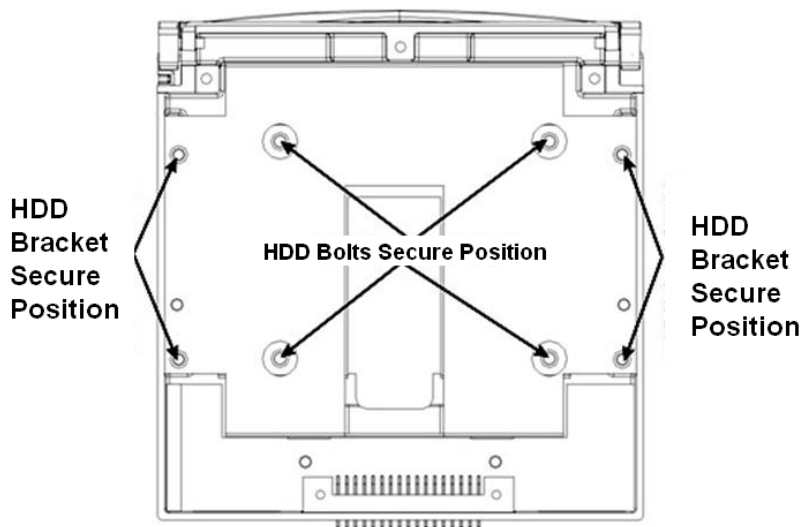

Figure 2-16
2) Now you can see an interface shown as in Figure 2-16 . Remove the four bolts from the HDD bracket and then draw out the bracket from the HDD box. Pull out the cable from the cable exit.